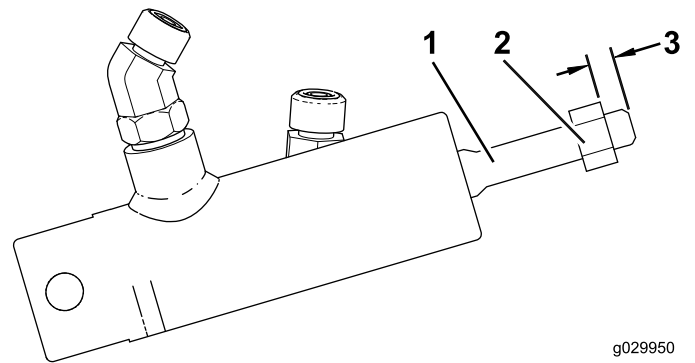

Figure 5
1. Install the jam nut (3/8 inch) to the cylinder rod until it is 2.22 cm (0.875 inch) from the end (Figure 5).